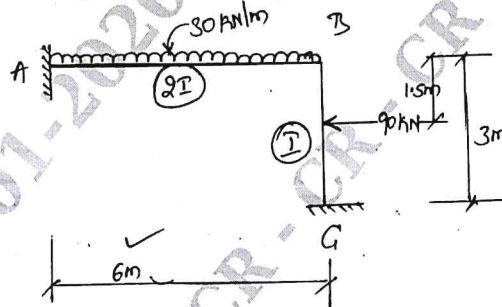

Fig.Q6
- 6 Analyze the frame shown in Fig.Q6 by flexibility matrix method.